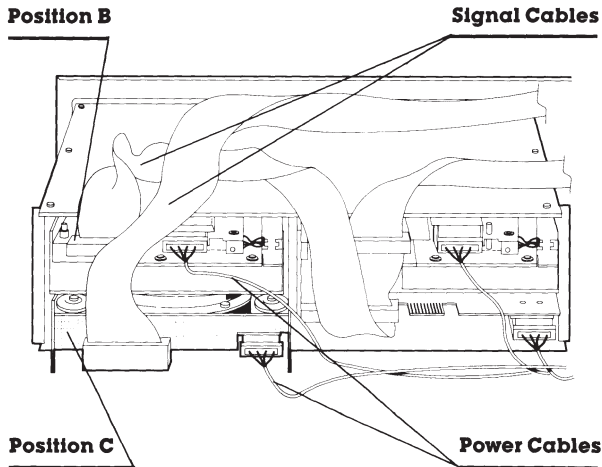

Figure 7-40. Disconnecting Cables from Mass Storage Device B or C.
2. Locate and disconnect the signal cable and the power cable from the back of the mass storage device in drive position B or C (Figure 7-40).